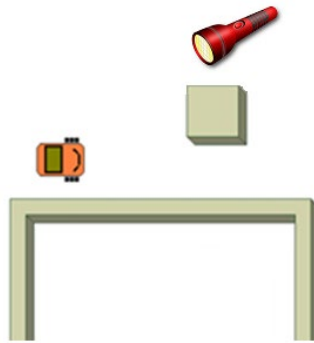

Figure 14: Robot homing
3. Based upon the above model, write code to home the robot to the light source (see Figure 14). The robot should come within one foot of the beacon without touching it. Turn on a YELLOW LED to indicate homing (moving to the goal, light following) and path planning (updates). Turn on a RED LED to indicate path following.